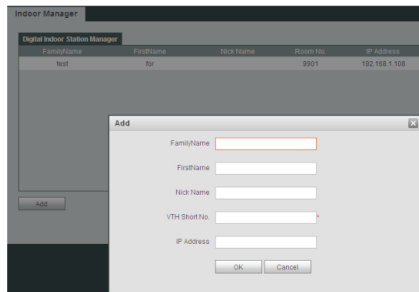

Figure 5-2
Step 3 Click on Add, input VTH Short No., IP Address (optional) to add a VTH. See Figure 5-2.